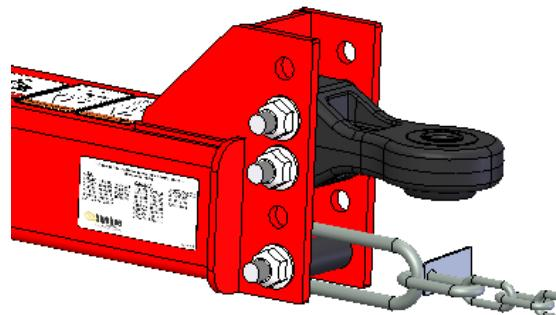

Figure 7.11: Disconnect the hitch from the tractor
13. Disconnect the hitch from the tractor; see Figure 7.11.